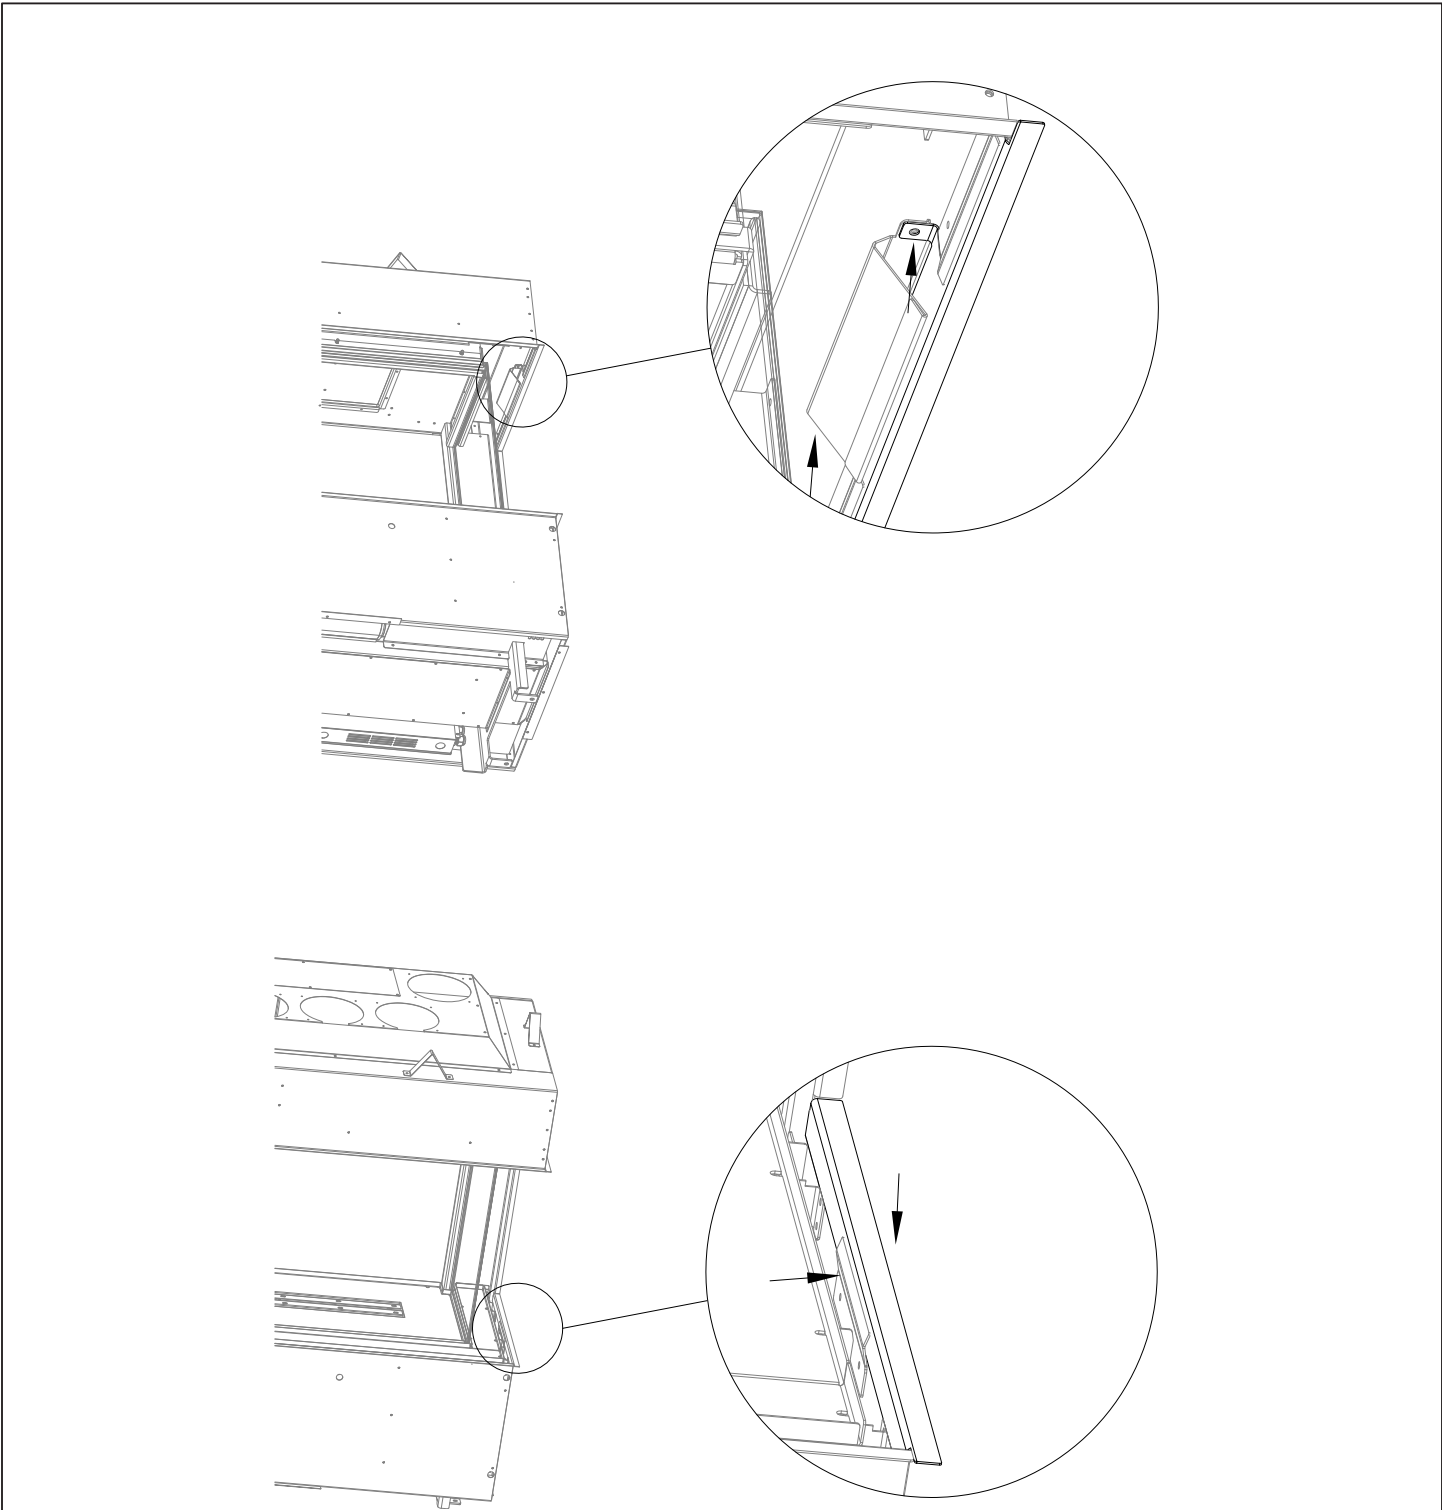

Figure 1.2 - 2-Sided (Corner) or 3-Sided (Bay) Fireplace Conversion
2. Install the top finishing edge bracket. Please note that the kit comes with a left and right top finishing edge bracket. Use the bracket for the side you are converting and discard the trim piece that is not used. The top finishing edge bracket fits in the fireplace between the outer shell and the top glass retention bracket. This top finishing edge bracket is installed by securing it to the inside of the fireplace via (2) sheet metal screws. See Figure 1.2.